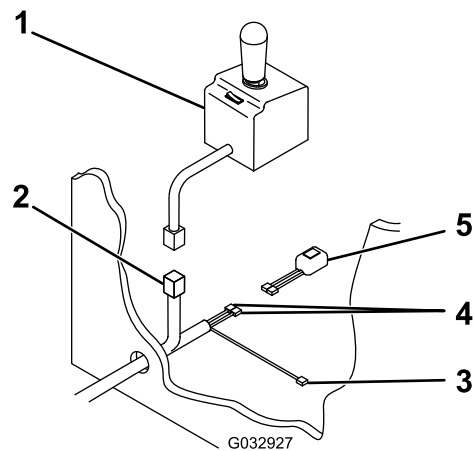

Figure 21
12. Connect the 2 black wires to the headlight toggle switch (Figure 21).
11. Pull the plow controller connector, black/red wire, and 2 black wires into the vehicle cab through the hole in the firewall (Figure 21).